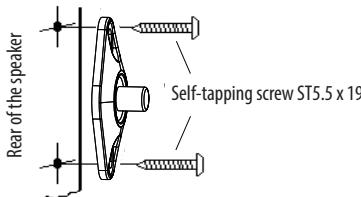

Figure 6
2. Drill the test hole(s) using a 1/8 "drill bit. The hole (s) should not be deeper than 1/2 "(see Figure 6).